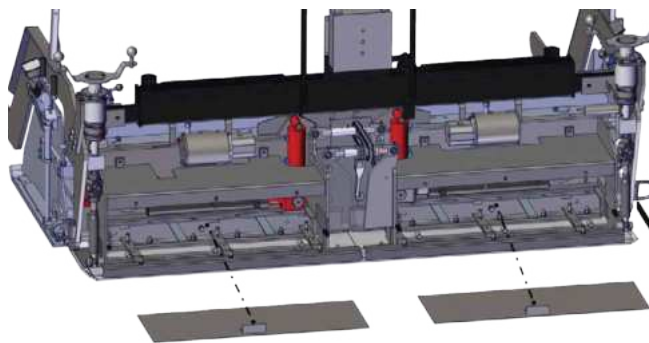

Figure 5-38. Inner Screed Element Covers
5. Grasp handle and slide out inner screed element covers as shown in **Figure 5-38** to access wear plate bolts.